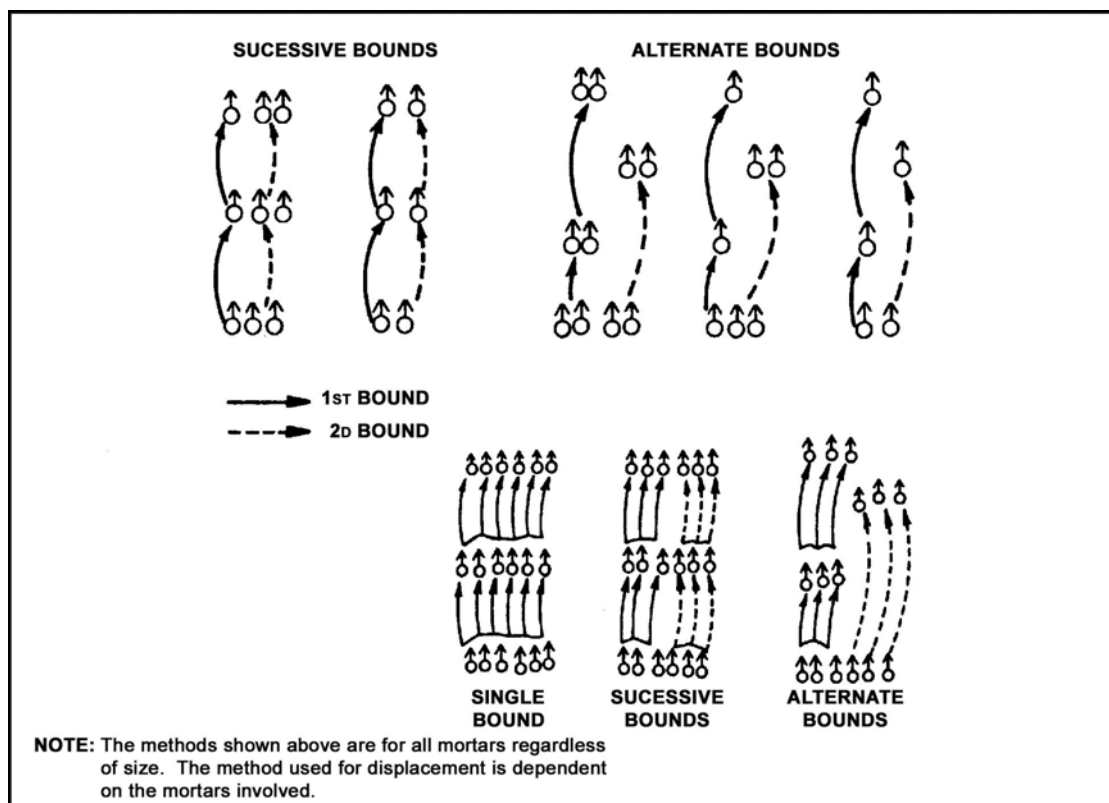

Figure 1. Displacement Methods
2. Displacement method by squad or section. This method is similar to displacement by sections, except fewer mortars are involved. Displacement is usually employed by platoons or sections with two or three mortars. In two-mortar platoons/sections, displacement means displacing one mortar while the other provides continuous support. In three mortar platoons/sections, one or two mortars remain in place while one or two displace. When the first mortar to displace is in position and ready to fire, the remaining mortar can be displaced. When possible, part of the fire direction center (FDC) is normally sent with the displacing squad, or a squad leader with an M16 plotting board or mortar ballistic computer (MBC) can serve as a temporary FDC. When displacing by section or squad, successive or alternate bounds are used (Figure 1).